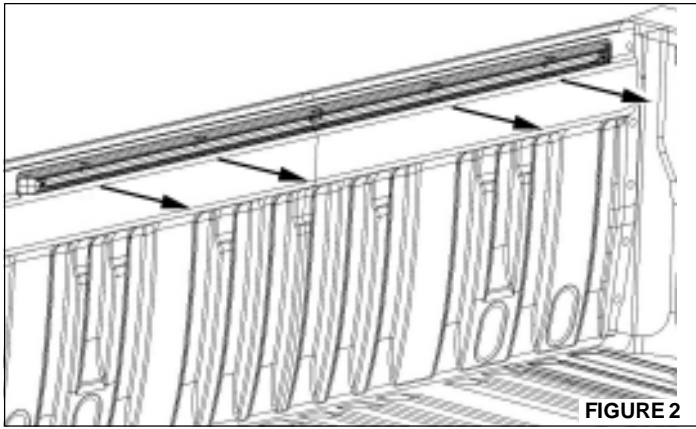

FIGURE 2
The tailgate should be free from dirt and debris. Center the tailgate cover on tailgate. Align the (8) holes in tailgate cover with (8) holes in tailgate. The top edge of tailgate cover sets on top of the truck tailgate plastic rail cap. (Fig. 2)
Using a T-30 Torx driver, remove the four (4) mounting screws that fasten the front C.M.R. to the front wall of the truck. (Fig. 2)